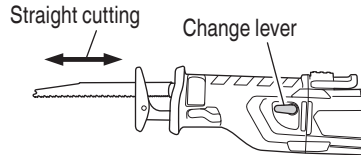
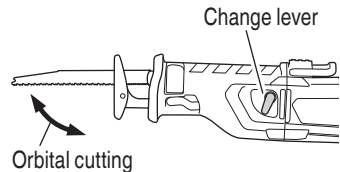

Fig. 10
Fig. 11
Two cutting systems can be selected with this unit. The first is straight cutting, in which the saw blade is moved linearly, and the second is the orbital cutting, in which the blade moves up and down, as well as back and forth. (Fig. 10, Fig. 11)
You can perform orbital cutting by setting the change lever lengthways. Orbital cutting should normally be performed when cutting soft materials such as wood, etc. Orbital cutting is efficient since the saw blade forcibly bites into the material. (Fig. 10)
- (3) Use the dial to adjust the speed of the saw blade to suit your working conditions and materials.
- (4) You can cut smoothly if you set the change lever position to straight cutting (Fig. 10).
- (2) You can cut efficiently if the speed of the saw blade is set to dial scale "6".
- (3) You can cut efficiently if the change lever position is set to orbital cutting (Fig. 11). Alternatively, you can cut cleanly if the change lever position is set to straight cutting (Fig. 10).